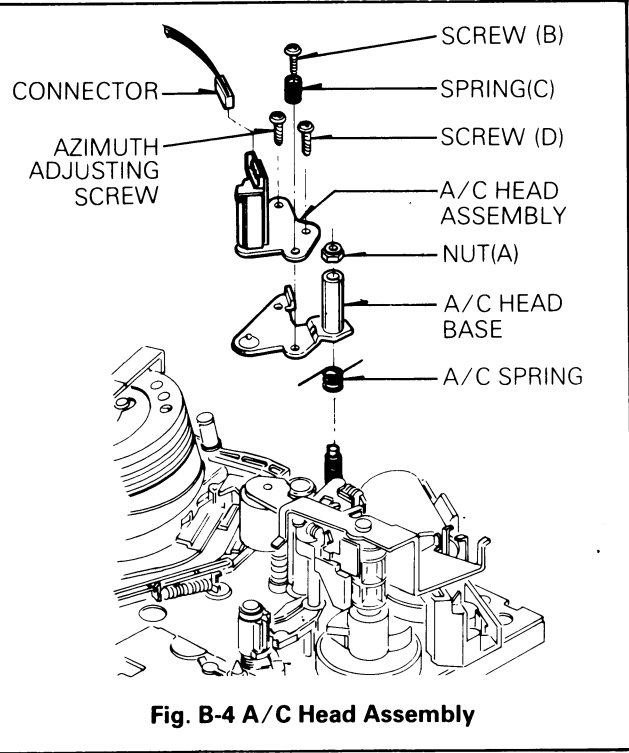

Fig. B-4 A/C Head Assembly
- ① Do not touch the Video Head Tip with fingers or tools.
- ② Make sure that the color(white) marked on the P.C.B of the upper Drum should coincide with the color(Green) marked on the Flange Assembly.
4. A/C(Audio/Control) Head Assembly (Fig.B-4)